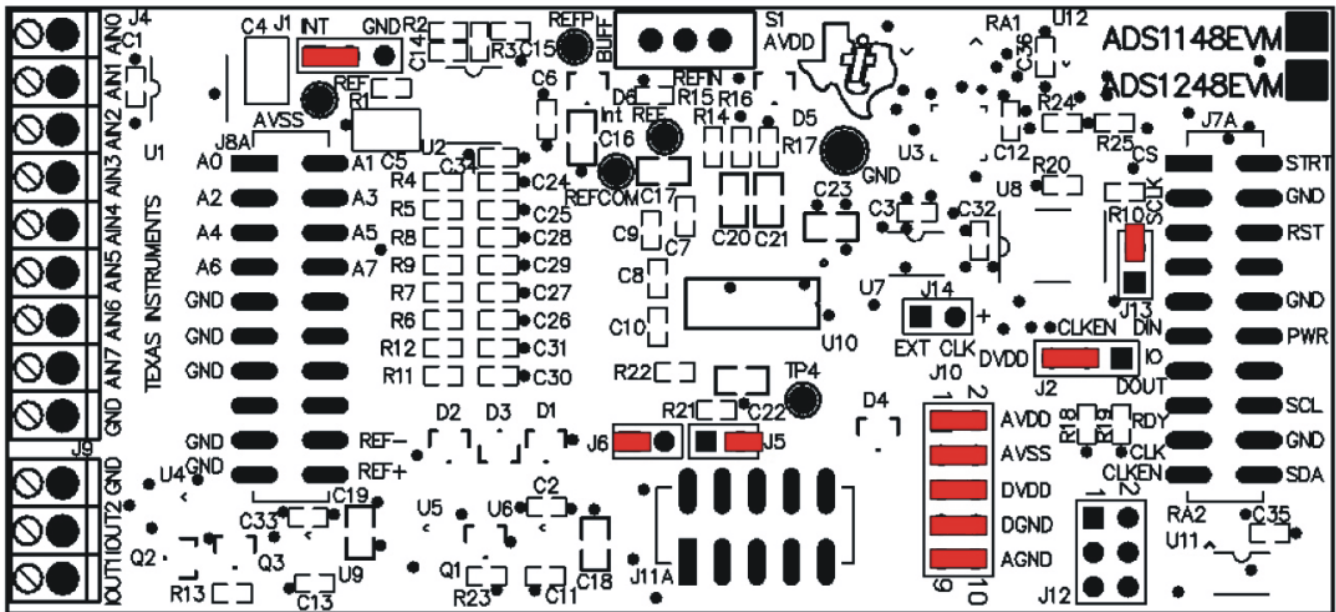

Figure 3. ADS1248EVM Default Jumper Locations
Figure 3 shows the jumpers found on the EVM and the respective factory default conditions for each.
Step 4. Set the jumpers and switches on the ADS1248EVM as shown in Figure 3 (note that these settings are the factory-configured settings for the EVM).